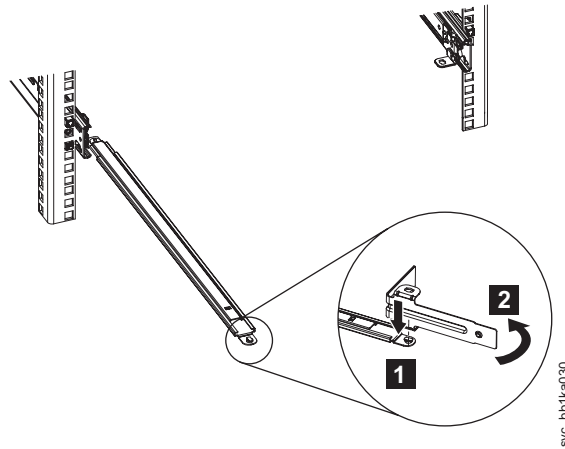

Figure 25. Rack rear: Installing the SAN Volume Controller 2145-CF8 cable-management stop bracket
3. Install the L-shaped cable-management stop bracket, as shown by **1** in Figure 25 on the unattached end of the support arm. Turn the bracket **2** to secure it to the support arm.